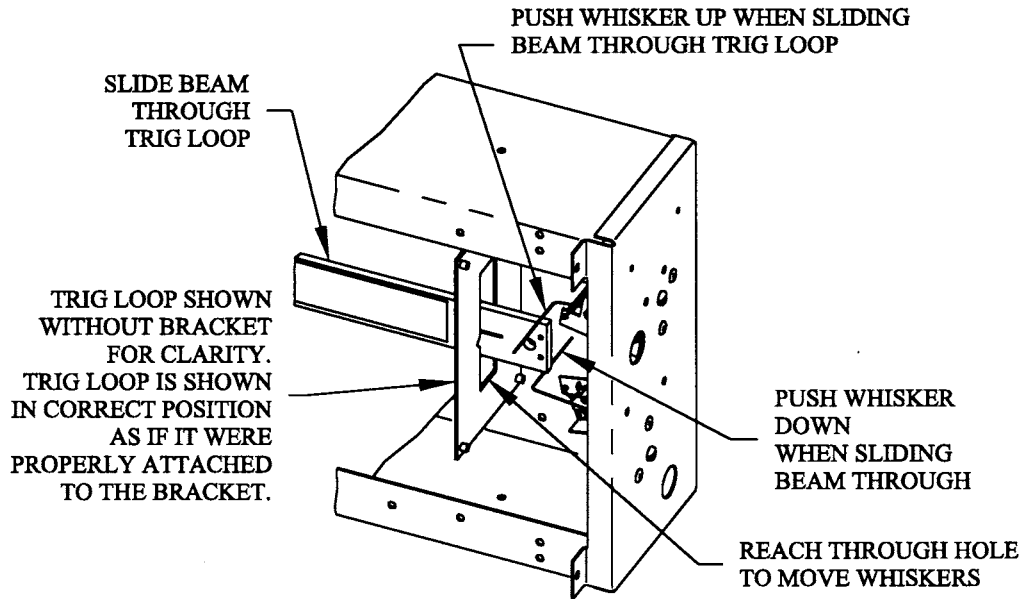
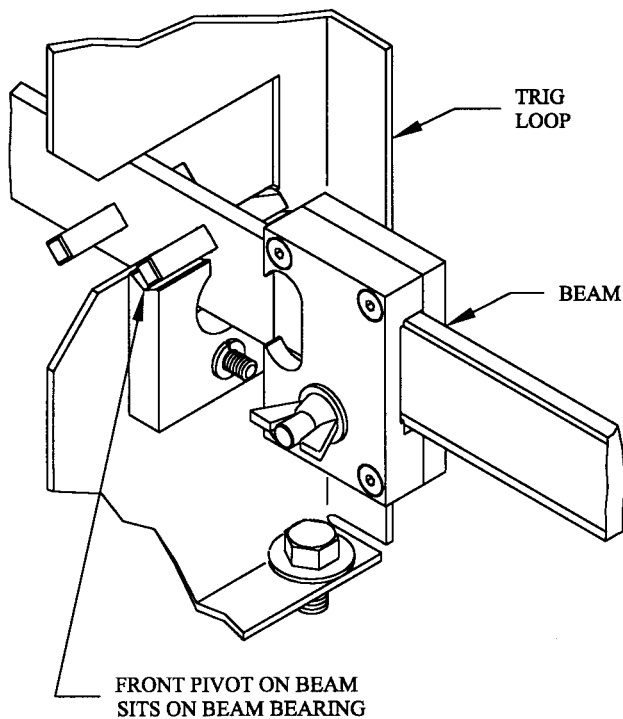
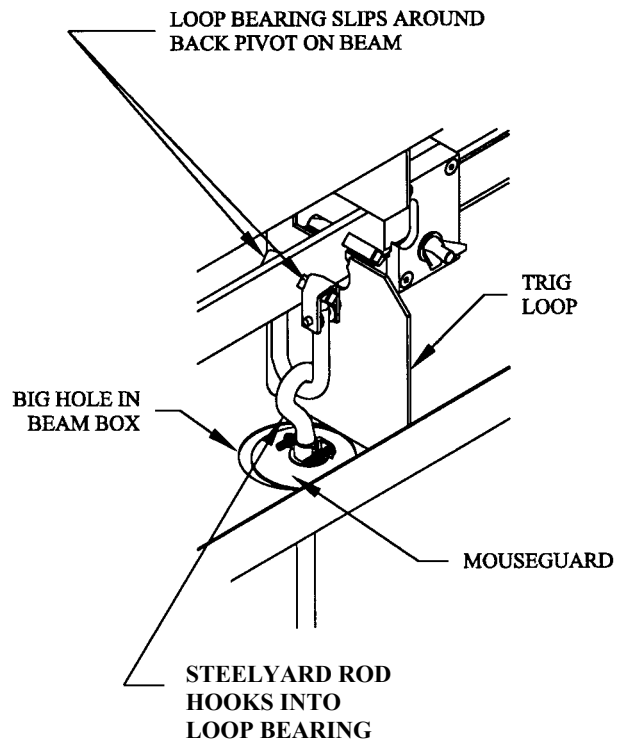

FIG. 9A
FIG. 9B
FIG. 9C
STEP 8. Open the door on the beam box. Notice where the trig loop and beam bearing are; the beam will be placed here. Remove the steelyard rod, beam and loop bearings (2) from the box. See Fig's. 8A & 8B.
STEP 9. Reach through trig loop with fingers and push whiskers up and down so that they are out of the way. While holding the whiskers, slide beam through trig loop. See Fig 9A. Place the front pivot on the beam bearing. See Fig. 9B. Slip the loop bearing over the back pivot on both the front and backside of the beam. See Fig. 9C. From underneath the beam box, push the steelyard rod up through the big hole (in the beam box) and hook it into the loop bearing. Use the end of the steelyard rod with the mouseguard. See Fig. 9C.